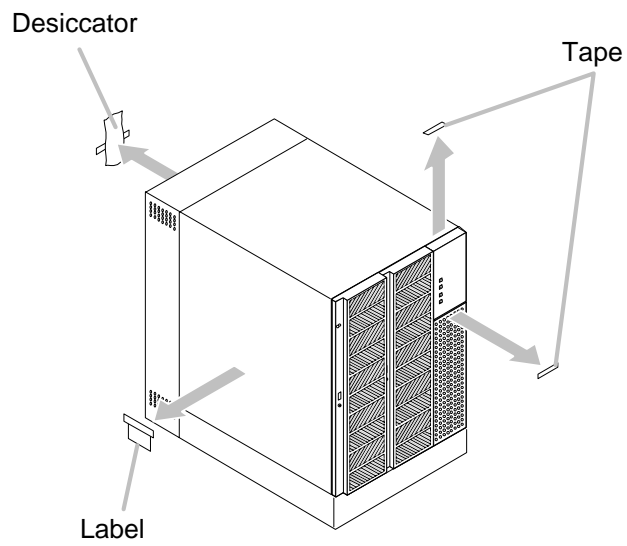

Figure 4.20 Location of Tape, etc.
6. Peel off the tapes fixing labels and etc. (see figure 4.20)